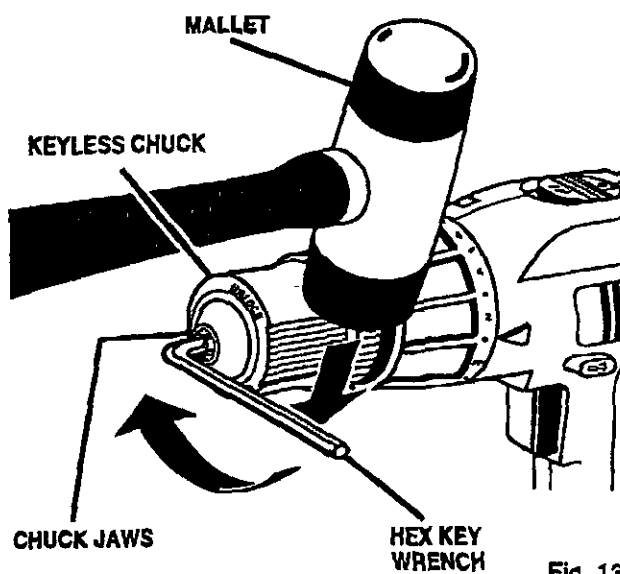

Fig. 13
See Figures 13, 14, and 15.
- Tap the hex key wrench sharply with a mallet in a clockwise direction. See Figure 13. This will loosen the screw in the chuck for easy removal.